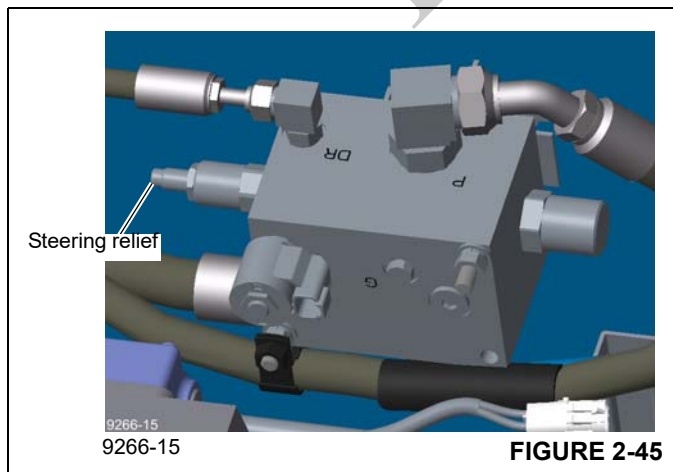

FIGURE 2-45
3. Start engine and throttle up to full RPM. Fully turn the steering wheel to the left or right. The reading at GP should be 2175 ± 50 PSI (150 ± 4 bar) if it is not adjust the steering relief (see Figure 2-45) "in" to increase or "out" to decrease until the reading is achieved.